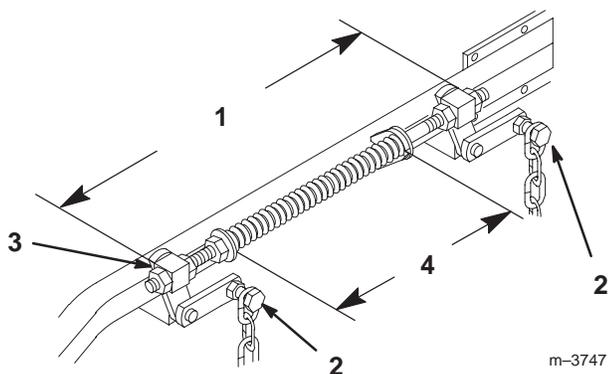

Figure 65
- Check tire pressure of all four (4) tires. If needed, adjust to 13 psi (90 kPa)
- Raise the deck to the transport position and take all force off of the two large deck lift springs by loosening nut in front of each spring (Fig. 65).
- Loosen the four top chain bolts in slots. Check the length of the rod/swivel assemblies. Distance from outside of rear swivel to outside of front swivel should be 19–17/32 inch (496 mm) (Fig. 65). Make sure that all four swivels move freely in holes.
2. Springs are compressed so the distance between the two large washers should be 10–1/4 inch (260 mm) (Fig. 65).
3. Adjust by turning nut in front of each spring (Fig. 65). Clockwise will shorten spring, counter-clockwise will lengthen spring.